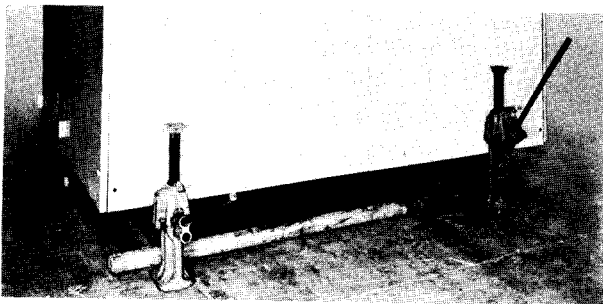

Fig. 1—Method of Raising Switchgear by Use of Jacks. Rollers in Place
1. After switchgear housings have been moved near site, raise the units by placing jacks under the shipping bases near the front and rear corners as shown in Fig. 1.